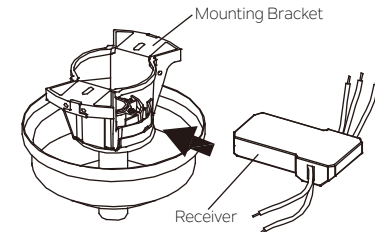

Fig. 15
**Step 1.** Insert the receiver into the mounting bracket, and keep flat in opposition of ceiling. (Fig. 15)